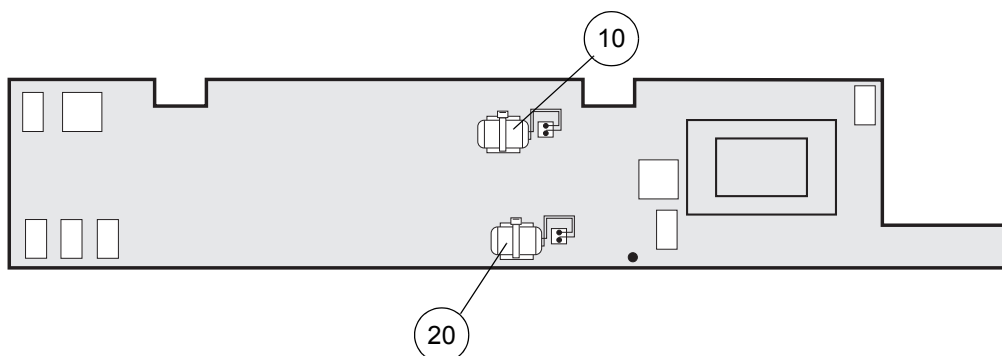

Figure 25 - Changing the Battery
- 34.3 Cut and remove the cable tie and remove the battery (Fig 25, Item 10, 20).